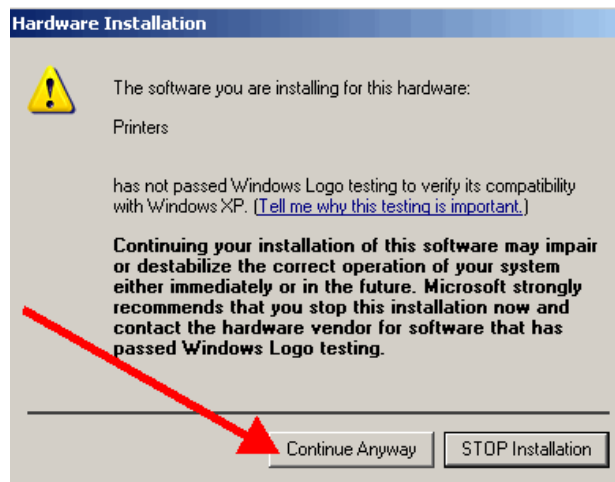

Figure 3-15
3.2.17. Click [**Continue Anyway**] to the *Windows Logo Testing* warning.(Figure 3-15)